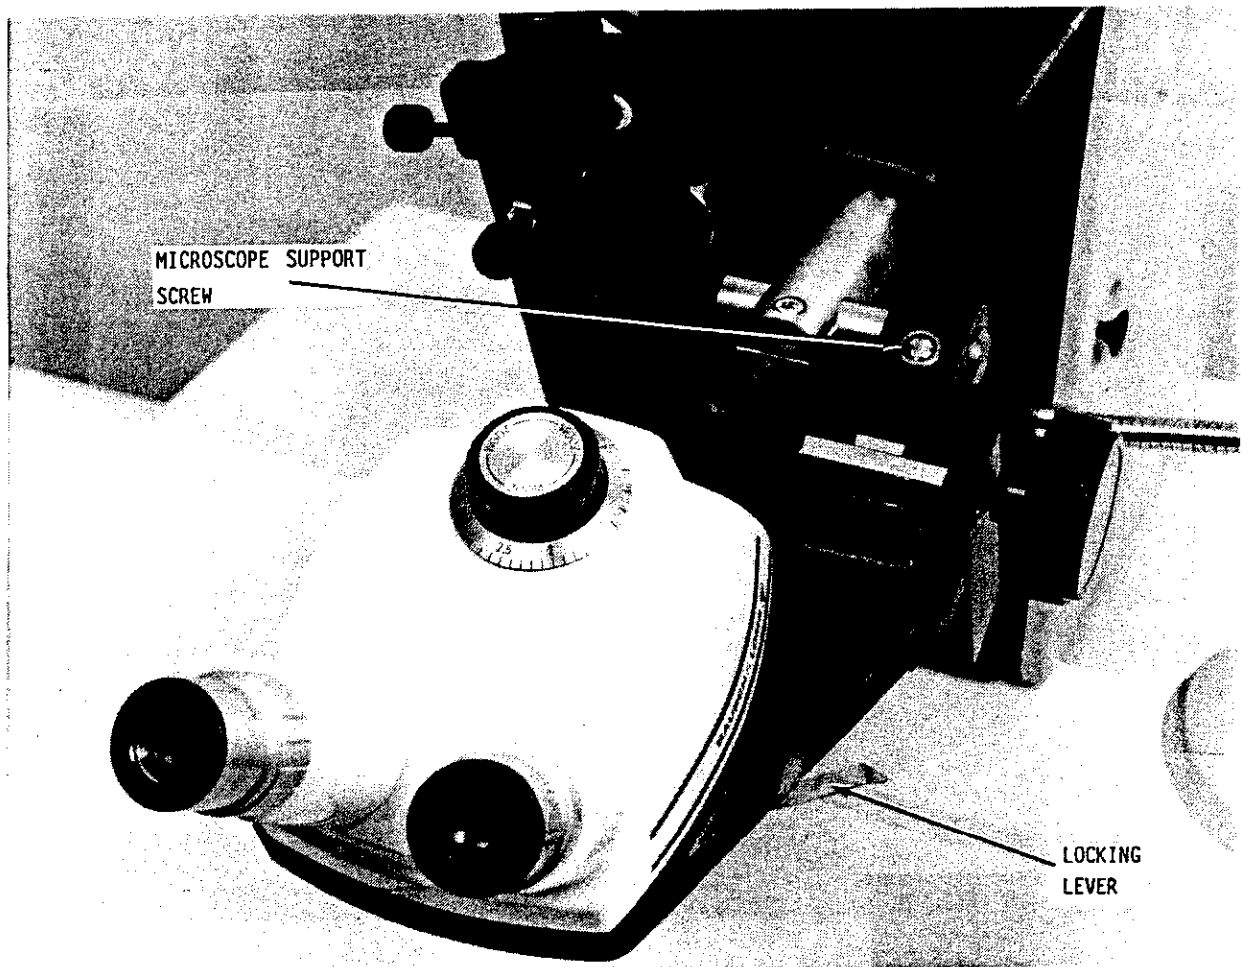

Figure 1-9 B&L Microscope Installation
- Step 1 Take the microscope holder out of the accessories box, unwrap and install it on the microscope support (see Figure 1-9).